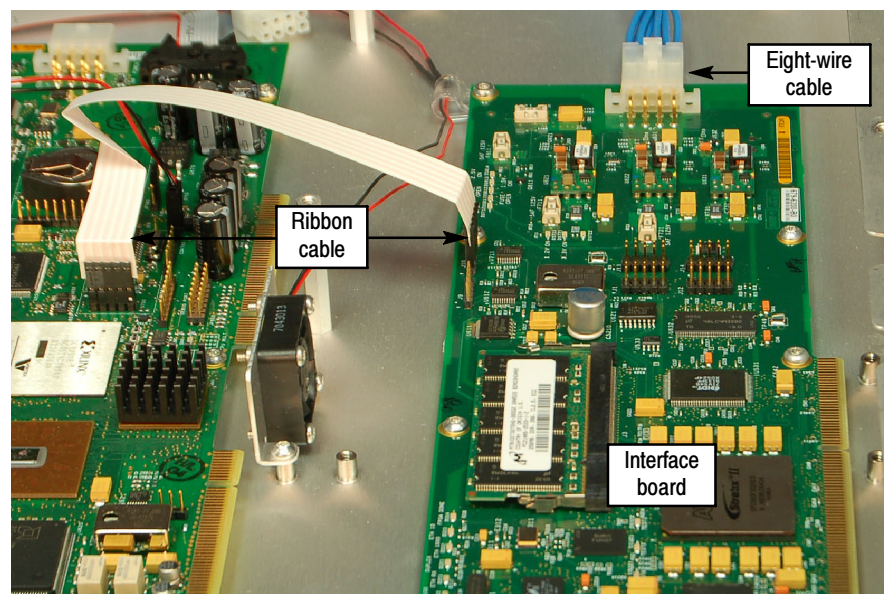

Figure 25: Cable connections for GbE interface board
- Connect the ribbon cable from the connector labeled J10 on the interface board to the connector labeled J750 on the TS Processor board. See Figure 25 for cable locations.